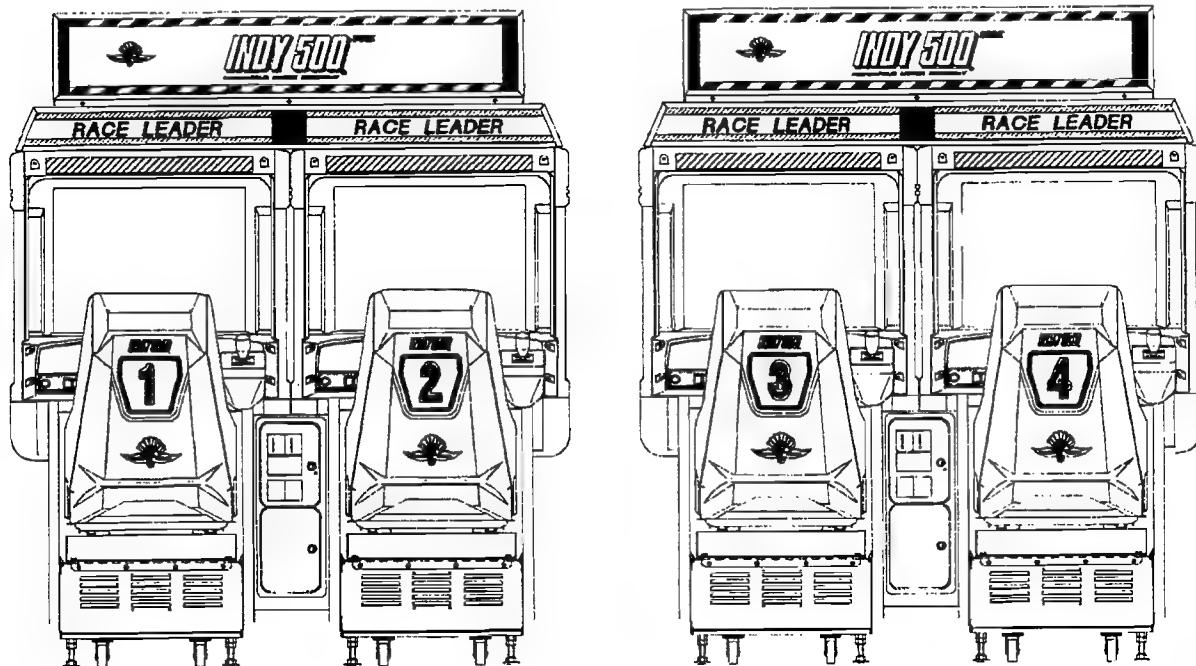

FIGURE 26: SEAT NUMBERING DIAGRAM
8. Apply Seat Number stickers to back of each seat, starting from the left-side cabinet of the MASTER cabinet and proceeding to the right (see Figure 26).